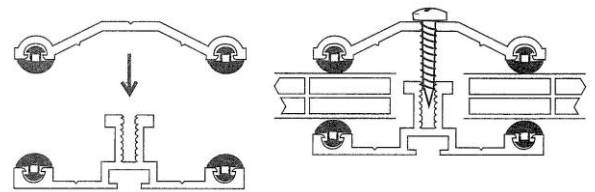

Fig. 8
Fix the top U profile (ref. 252/253/255) over the sheet. Locate the sheet over the 227 base bar leaving room for expansion. Ensure the sheet is level and fit the glazing bar cap (ref. 226) using the recommended screws, capping each screw with a screw cover cap (see Fig 8).